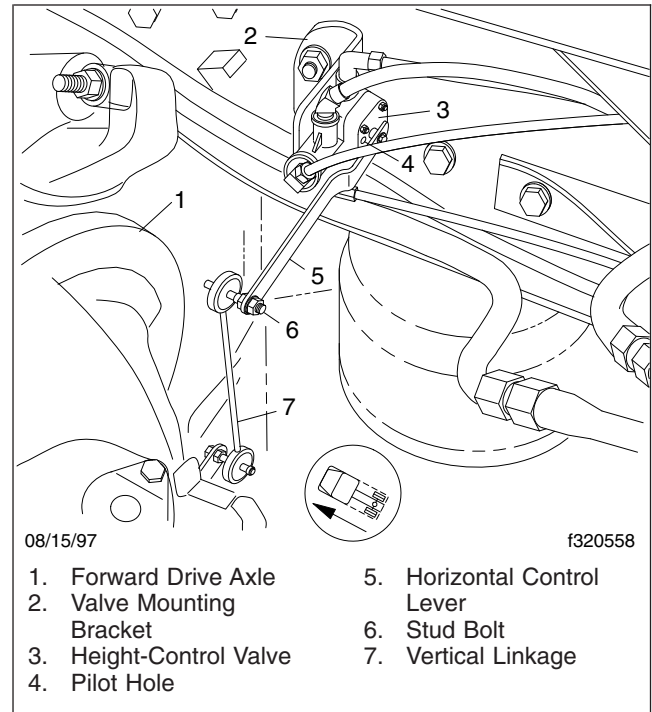

Fig. 1, Height-Control Valve Installation
3. Remove the nut and washer that attaches the vertical linkage to the horizontal control lever. Disconnect the vertical linkage from the control lever; see Fig. 1.